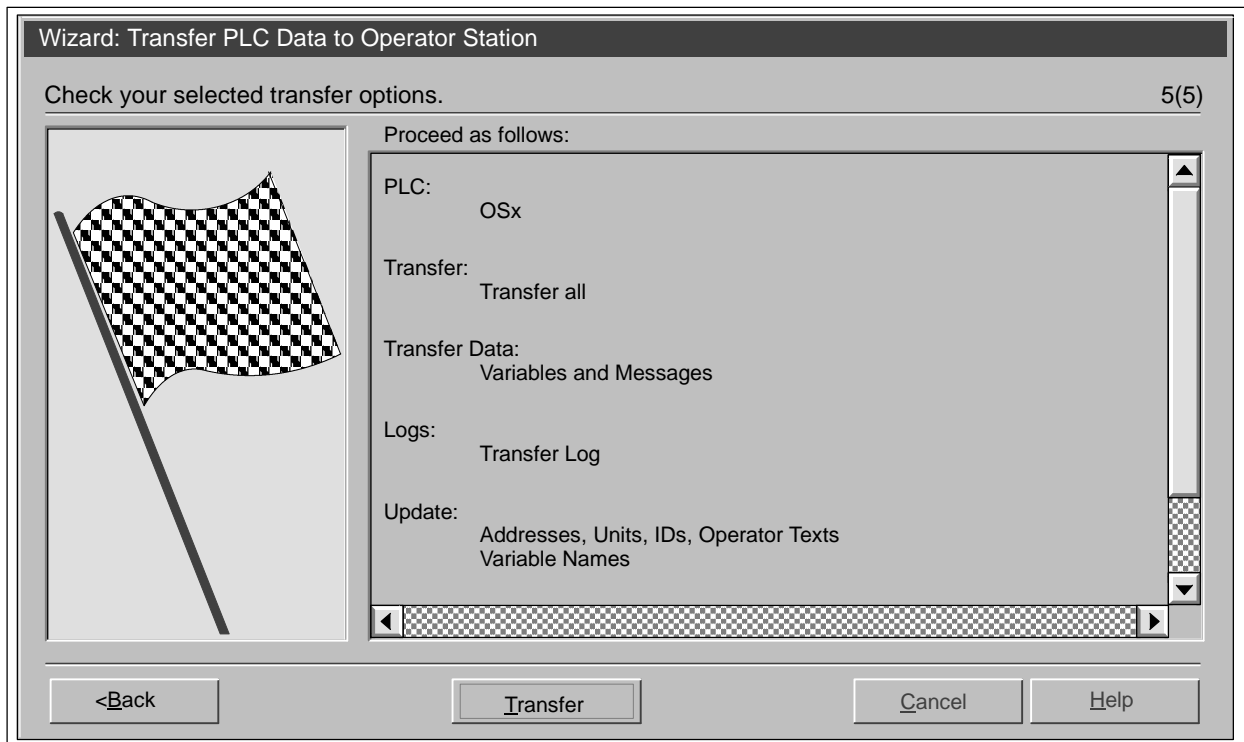

Figure 2-15 Transfer Summary Window
9. Click **Continue**. A transfer summary window appears (Figure 2-15). Check your selections. Use the **Back** button to make any necessary corrections.